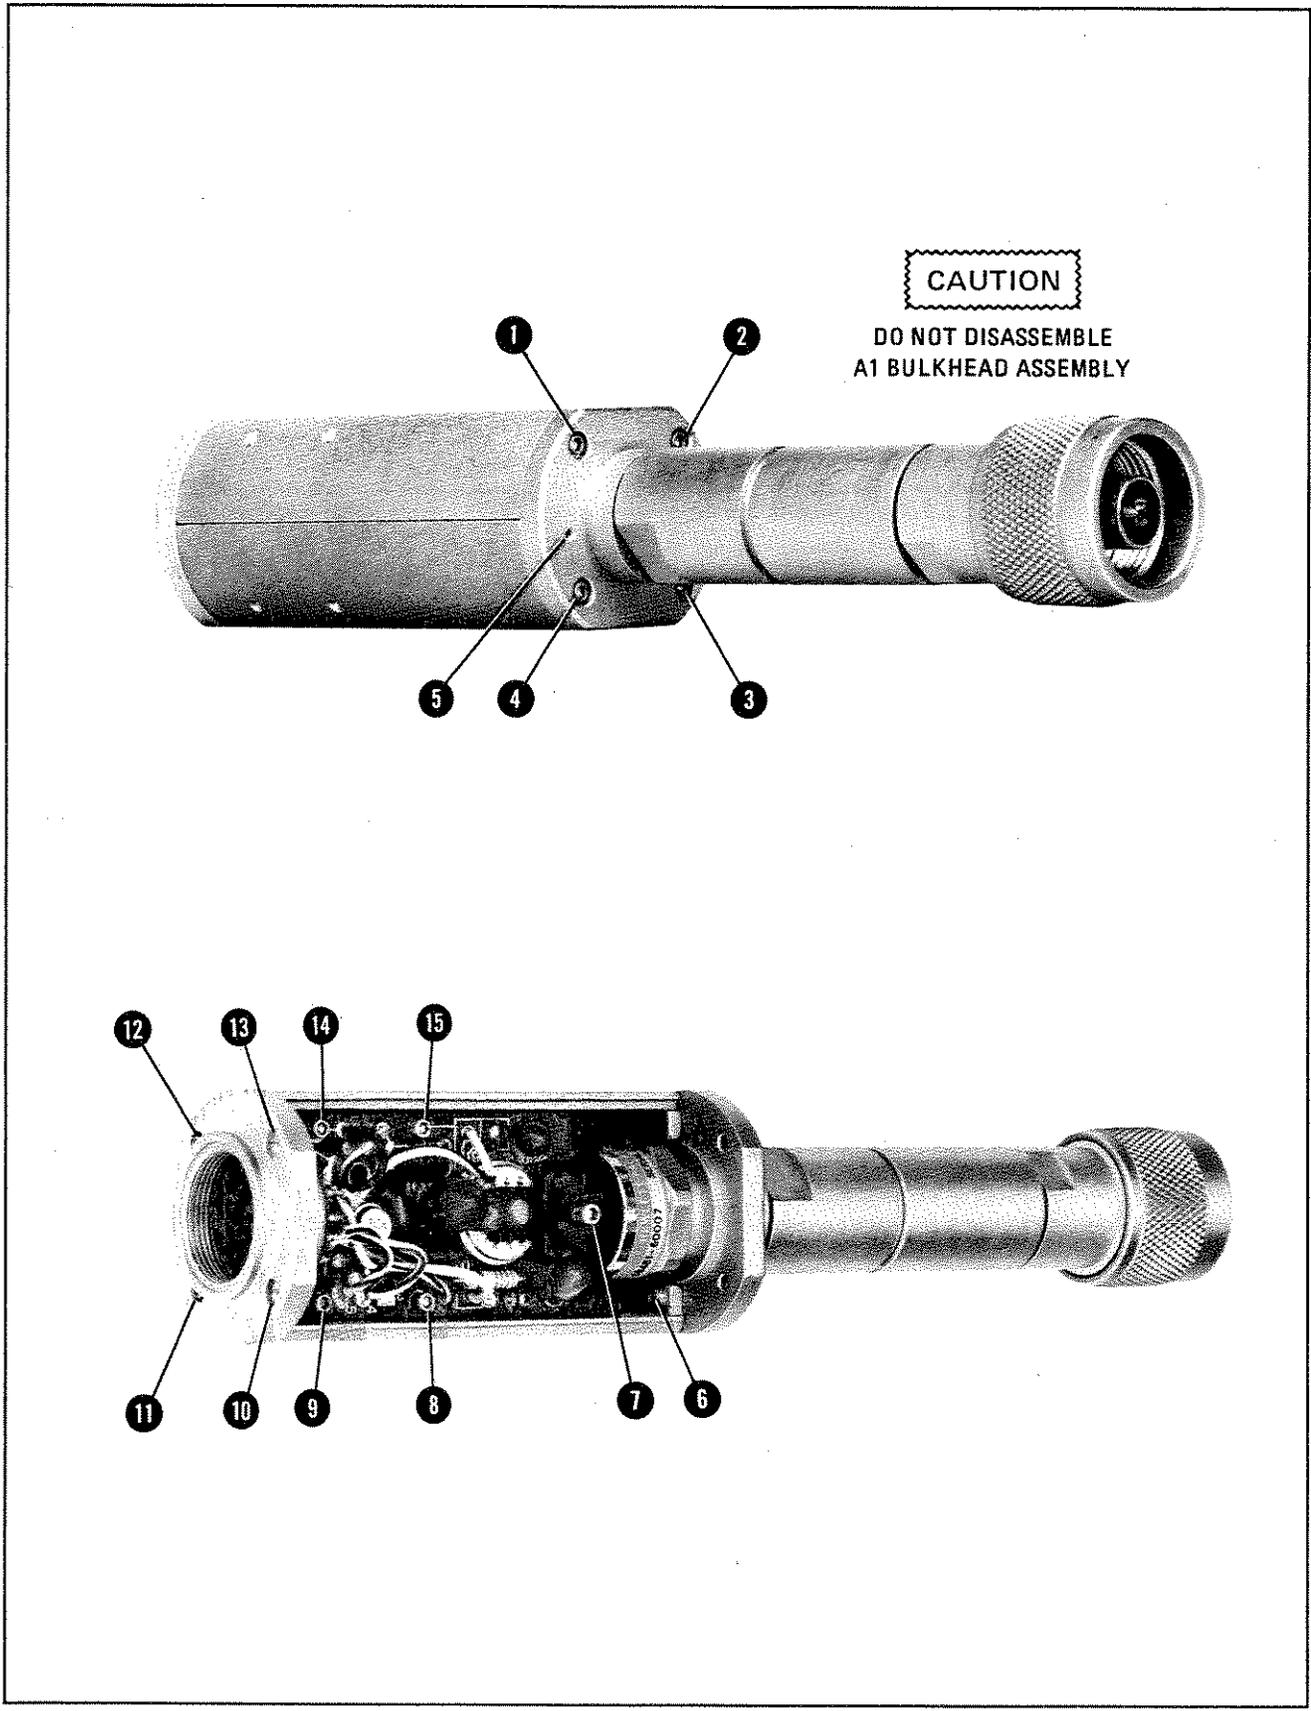

Figure 6. Power Sensor Hardware Locations
3. Position the Power Sensor as shown in figure 6 (top). The small hole 5 should be on the left side of the RF input connector. Remove the allen cap screws 1, 2, 10, and 13. Loosen 11 and 12. Remove the upper chassis from the Power Sensor.
2. Cap screws 8, 9, 11, 12, 14, and 15 must be inserted but not tightened. Refer to figure 6.